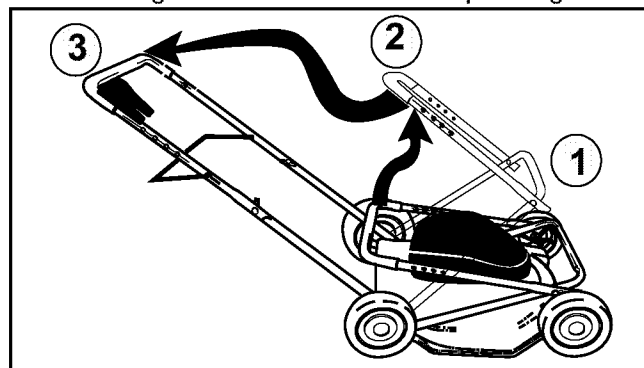

Figure 3
- Pull up and back on the upper handle to raise the handle into the operating position. Make certain the lower handle is seated securely into the handle mounting brackets. Refer to the steps in Figure 3.